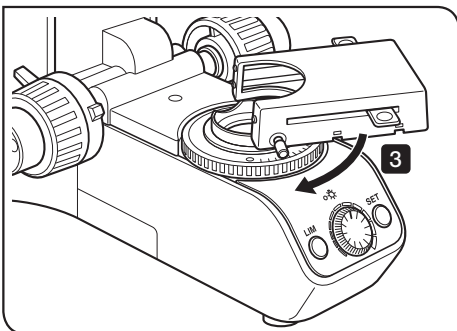

Fig.16
- 3 Rotate the filter cassette to align its sides with the base. (Fig.16)